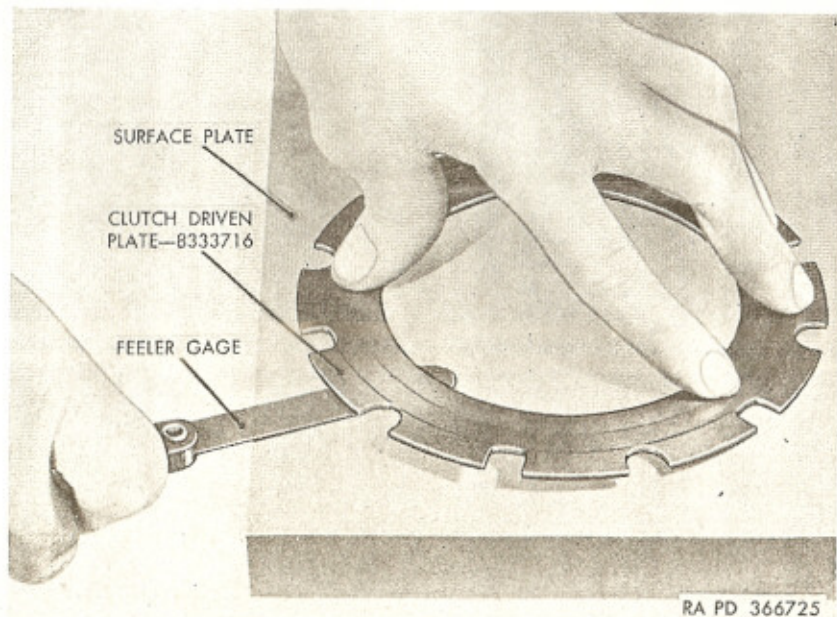

Figure 108. Measuring depth of waves in clutch driven plate.
- (2) Inspect the clutch driven plates (B) for scored surfaces and flatness.
- (3) The driven plates have six distinct "waves." Check depth of waves on surface of plate (fig. 108). Waves should be 0.008 to 0.012 inch deep.
- (4) Check clutch inner and outer release springs (D and E) for free length, compressed length, and collapsed coils.
- (5) Inspect clutch driven plates (G) for scored surfaces and for flatness. Driven plates should have six waves at least 0.008 to 0.012 inch deep. Check surface plate with feeler gage as shown in figure 108.